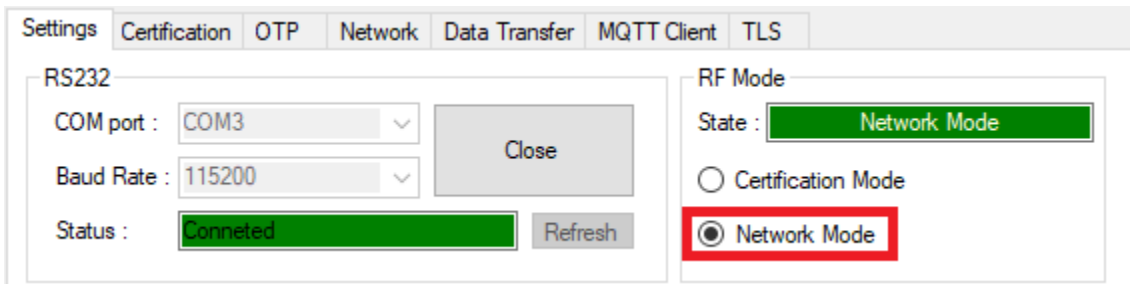

Figure 14: Network Mode Configuration
2. Select the **Network Mode** checkbox. See Figure 14.